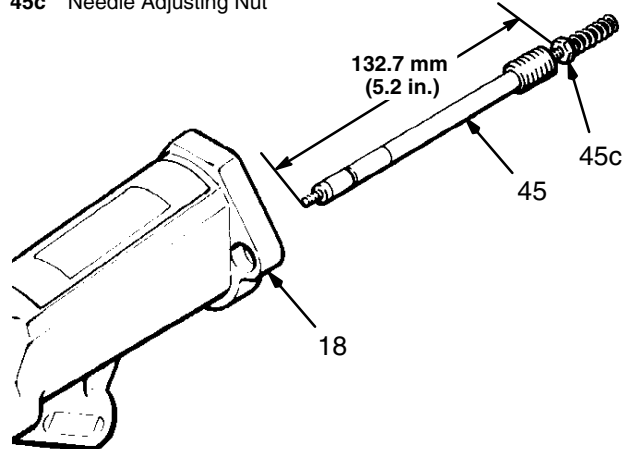
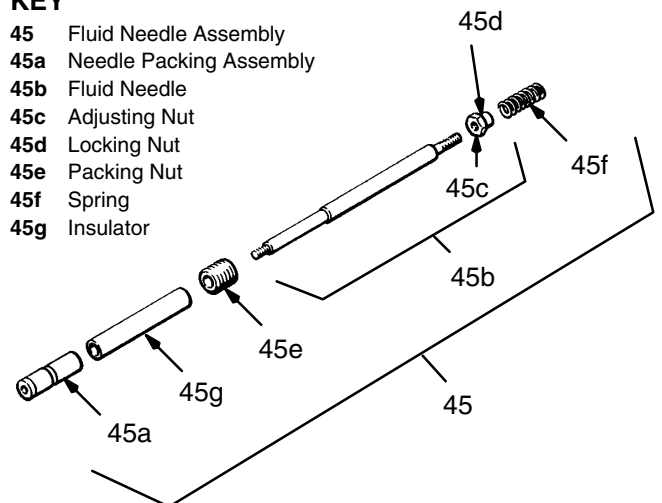

Fig 15
Fig 16
- Carefully remove the fluid needle assembly (45) from the rear part of the gun barrel (18). See Fig 15. If the packing assembly (45a) or insulator (45g) are still in the barrel, insert the packing removal rod (59d) into the front of the barrel to gently push them out. Refer to Fig 16.
NOTE: If the position of the adjusting nut (45c) is changed, install the adjusting nut to the approximate dimension shown in Fig 15. (Final adjustment will be made in step 15.) If the spring (45f) was removed, reinstall it over the nut (45d).